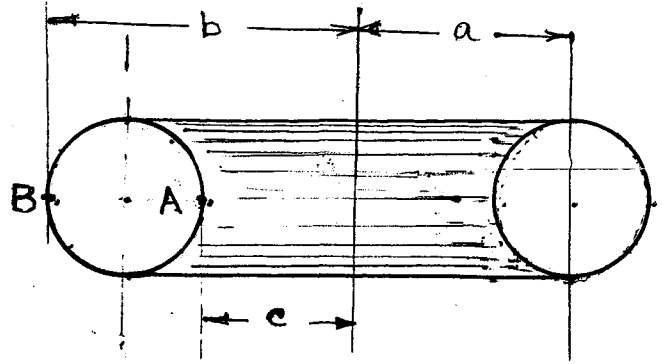

Fig. Q.4
- Q.4. A rubber torus inflated to a pressure $p = 0.1 \text{ N/mm}^2$ has dimension as shown in Fig.Q.4. Calculate the membrane stresses on the elements at A and at B, if $a = 300 \text{ mm}$, $b = 400 \text{ mm}$ and $c = 200 \text{ mm}$. Thickness of the wall = 2.5 mm.